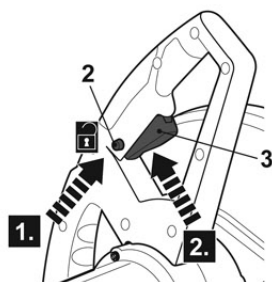

Fig. 9
- > Press and hold the lock-off button (2) and then squeeze the on/off switch (3) to switch the product on (Fig. 9). Release the lock-off button afterward.
- > Release the on/off switch (3) to switch the product off.